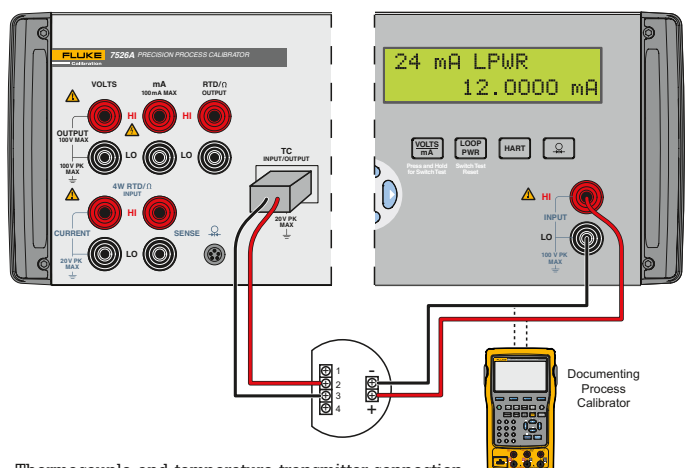

Figure 2. Thermocouple and temperature transmitter connection.
3. Connect a Type J mini connector into the TC input/output jack as shown in Figure 2. Make sure to use a Type J thermocouple (typically black).
4. Connect the bare ends of the thermocouple wire to terminals 2 (+) and 3 (-) of the transmitter and run power as shown in Figure 2, ensuring that the polarity of the circuit is connected correctly.